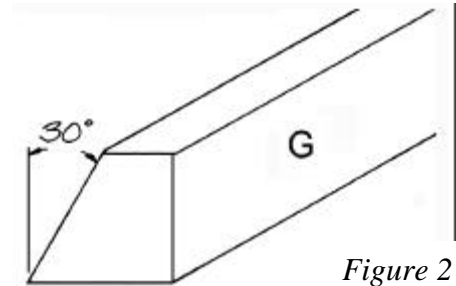

Figure 2
3. Bevel one long edge of each Corner (G) piece at 30-degree angle as shown in *Figure 2*.